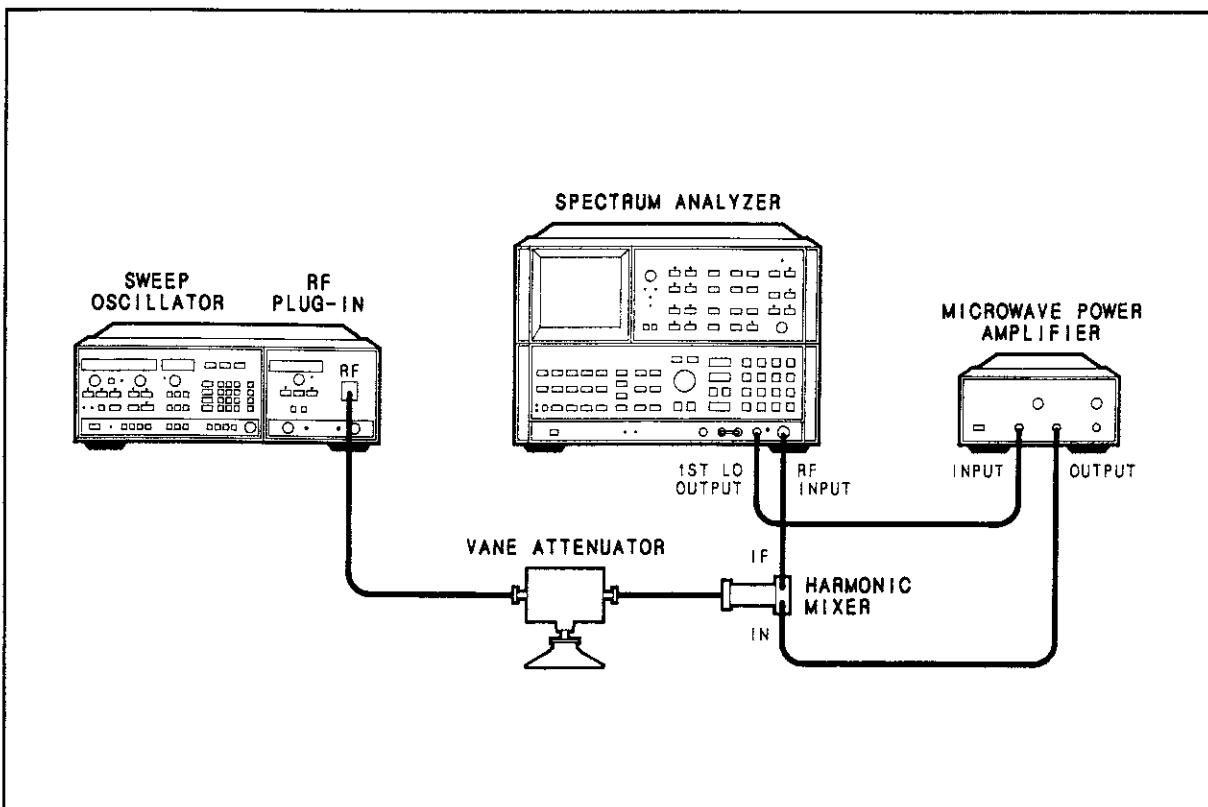

Figure 4-1. Frequency Range and CW Accuracy Test Setup
1. Connect the equipment as shown in Figure 4-1. Set the vane attenuator to 20 dB.